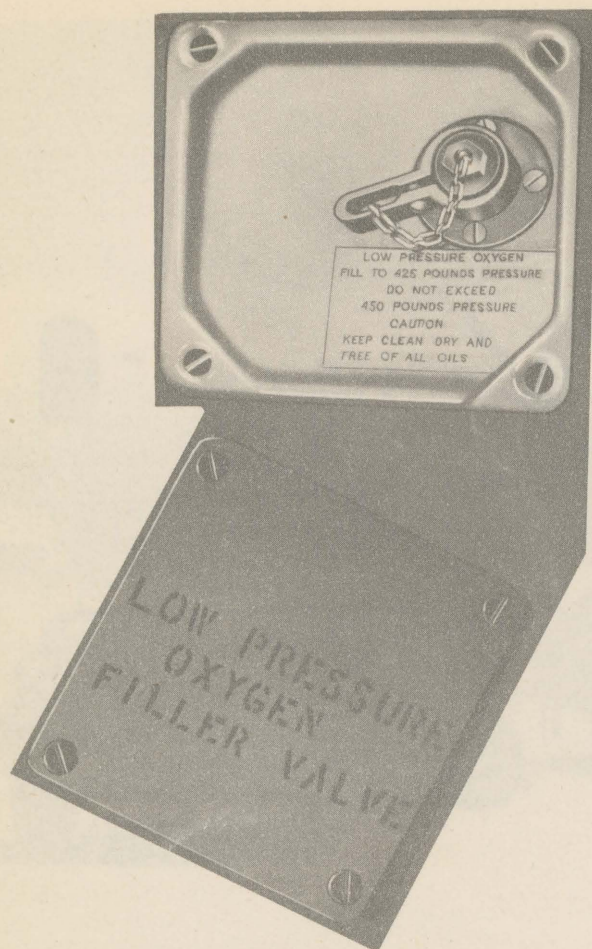

Figure 8-5. Low-Pressure Oxygen Filler Valve Recess and Cover Plate
f. **FLEXIBLE HOSE.** This hose (9) connects the filter with the charging valve and adapter.
g. **CHARGING VALVE.** This is a hand-operated shut-off valve (10) used to stop the flow of oxygen from the flexible hose.
h. **ADAPTER.** This adapter (11) connects the recharging apparatus with the airplane filler valve. (See figure 8-5.)
a. Remove the cover plate from the low-pressure oxygen filler valve recess on the airplane. (See figure 8-5.) Remove the valve cap. Make sure that the valve is clean, and free from oil or grease.